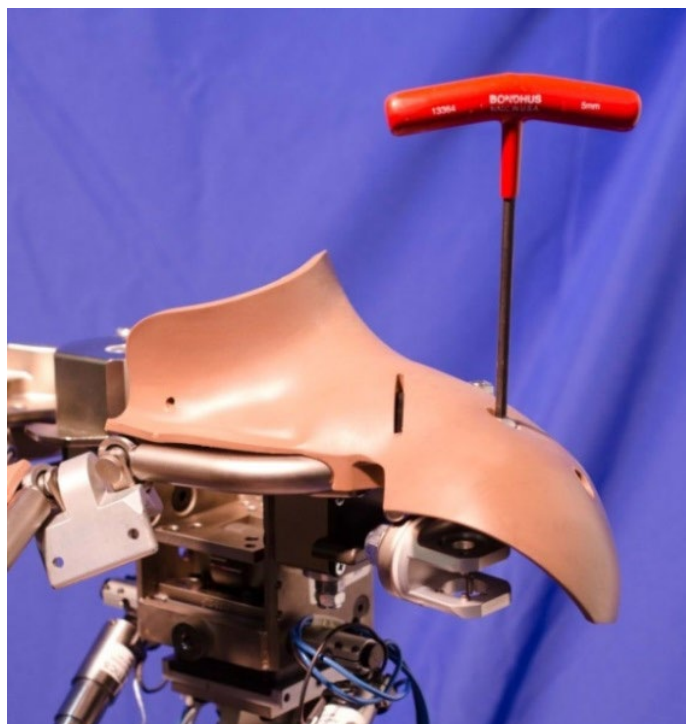

Figure 6-41. Secure shoulder cover to clavicle
6.2.2.32 Place the shoulder cover on top of the clavicle and rod end spacer assembly and secure with a modified M8 BHCS (Figure 6-41).